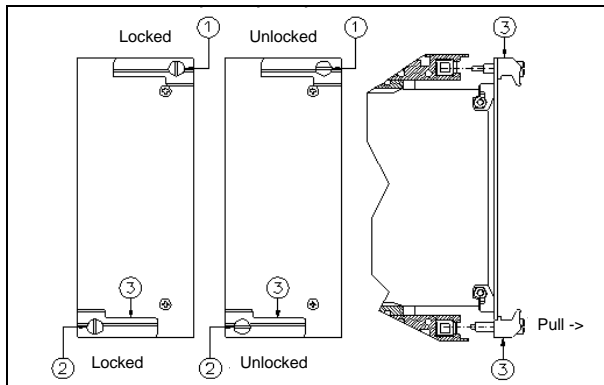

FIGURE 1: LATCH MECHANISM FOR REMOVAL OF RELAY FROM CASE
To remove the relay from its case, refer to Figure 1. The relay may be removed from its protective case by turning with a flat bladed screwdriver the locking screws ① and ② on the front panel latches ③ so that the slot on the screw is parallel to the ground. The latches may then be pulled from the inside edge to release the relay. Carefully pull on the latches to remove the relay from the housing.